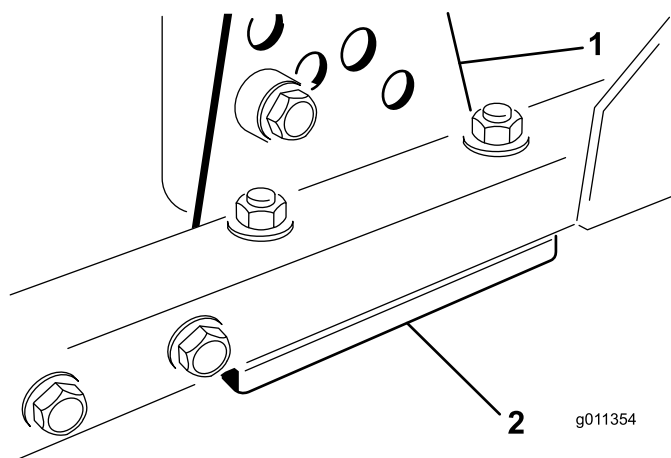

Figure 89
1. Remove the height-of-cut bracket, (front, left, or right) from the cutting-unit frame (Figure 89).
2. Insert 1.5 mm (0.060 inch) shims and/or 0.7 mm (0.030 inch) shims between the cutting-unit frame and bracket to achieve the desired height setting (Figure 89).